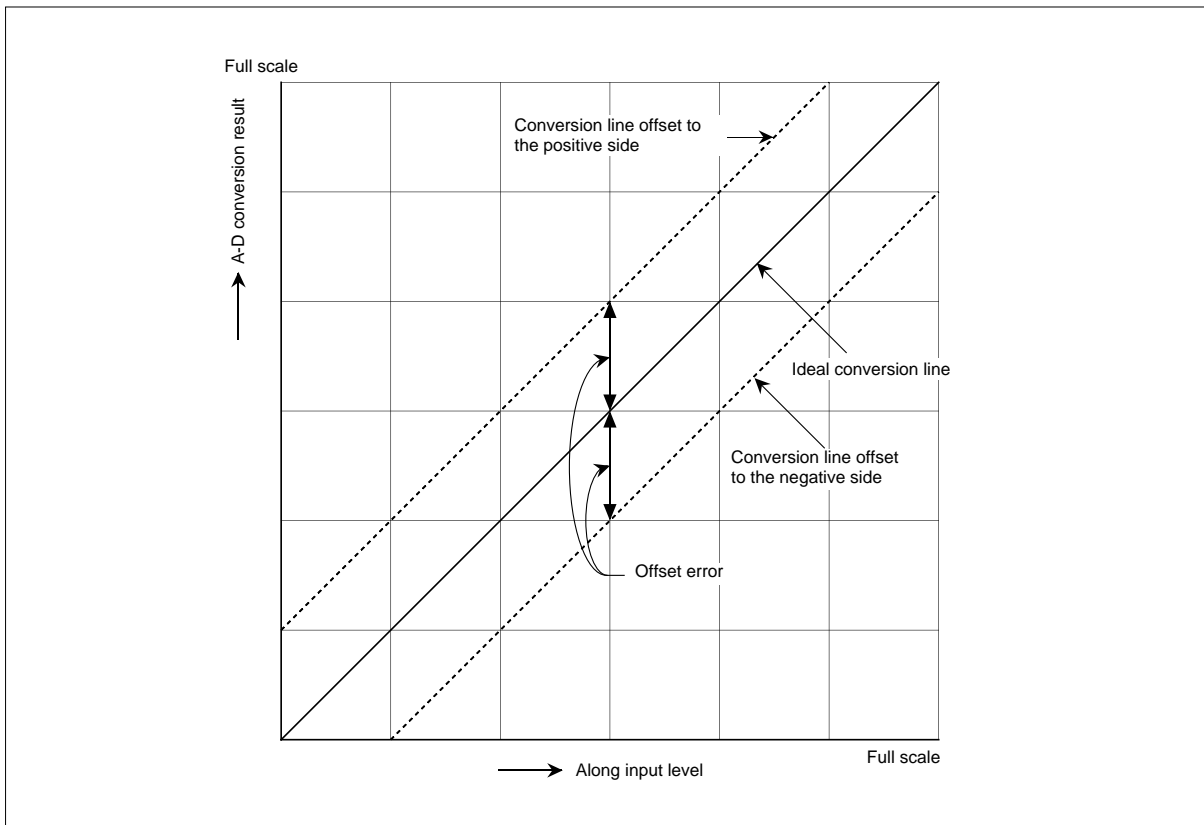

Figure 11.3.6 A-D Converter's Offset Error
- (3) Offset error ..... Refers to an amount of dislocation by which the actual digital output code is dislocated from the digital output code obtained from the A-D converter's ideal conversion line. (Figure 11.3.6)